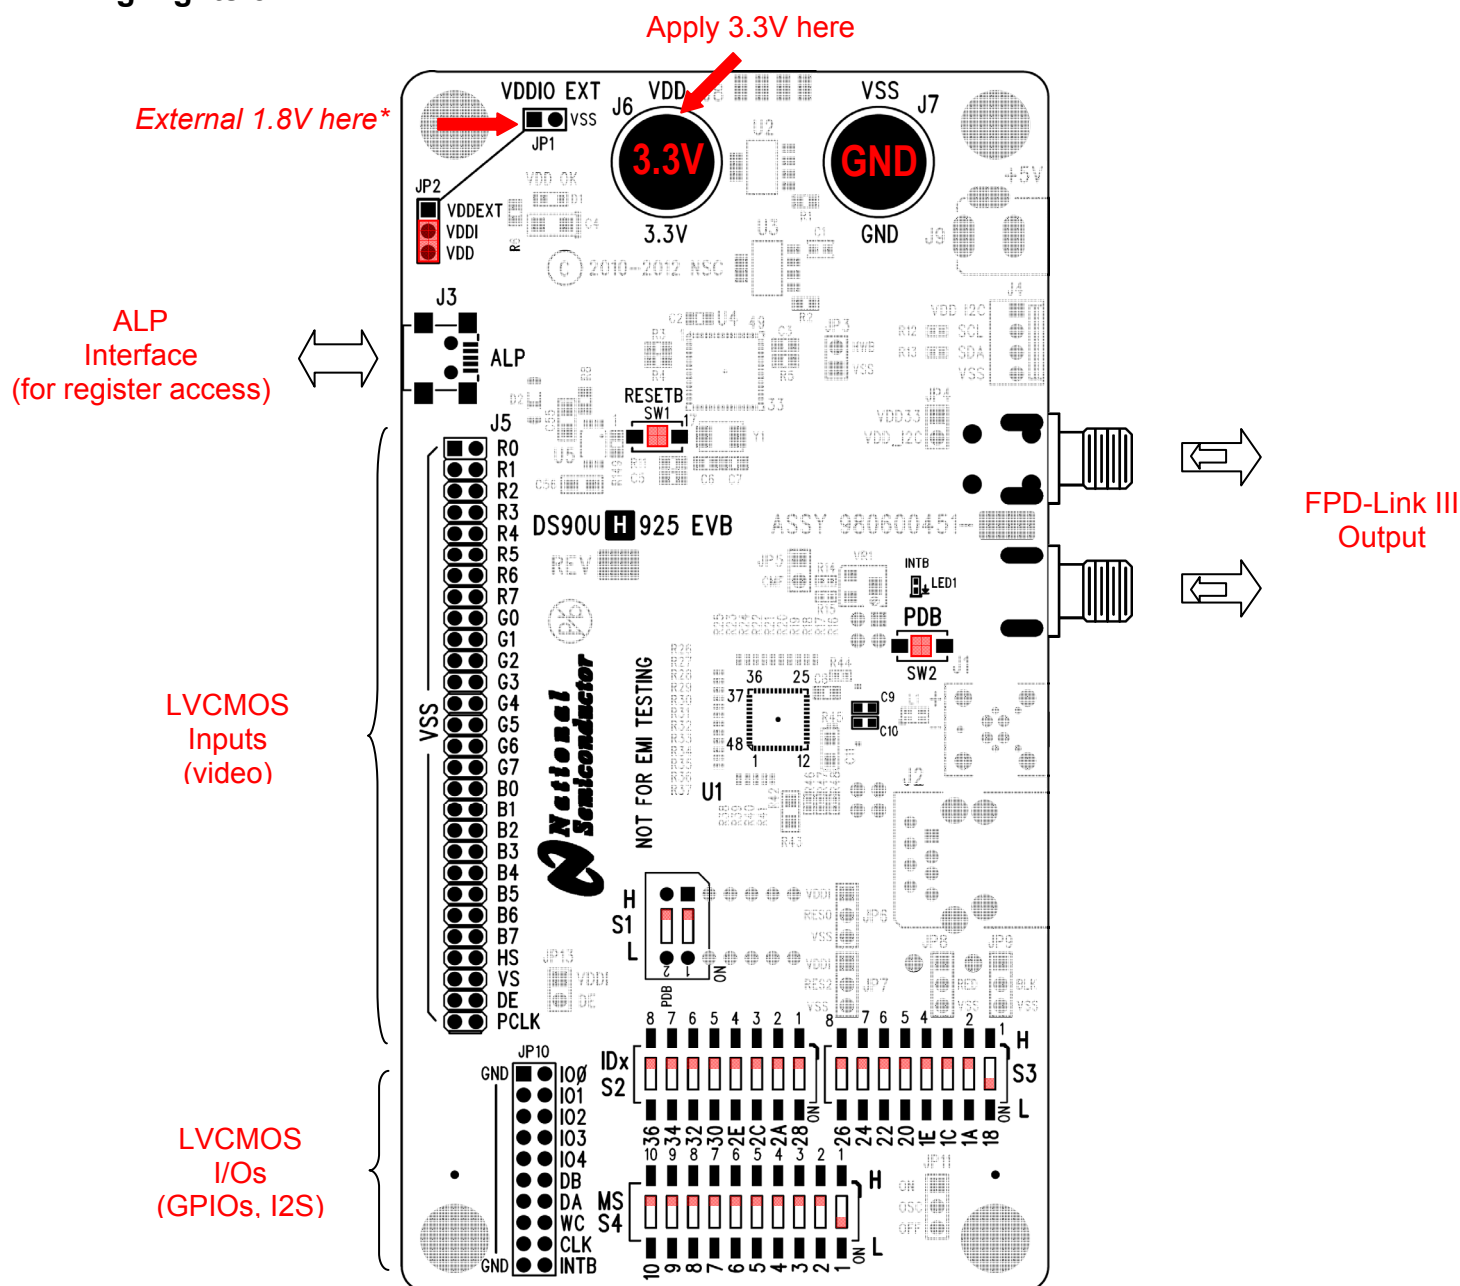

Figure 1: DS90UH925Q EVB
| Figure 1: DS90UH925Q EVB.....                                              | 2  |
***Make sure S1, S2, S3, S4, and JP2 are configured as shown in Figure 1.***
- 5) Go back to figure 1 and double check factory settings.